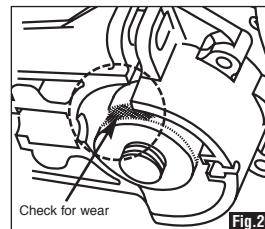

Fig.20
- Inspect the cam **5** for excessive wear. (fig.20). If wear is greater than 2mm deep replace using an Arbotech replacement cam.